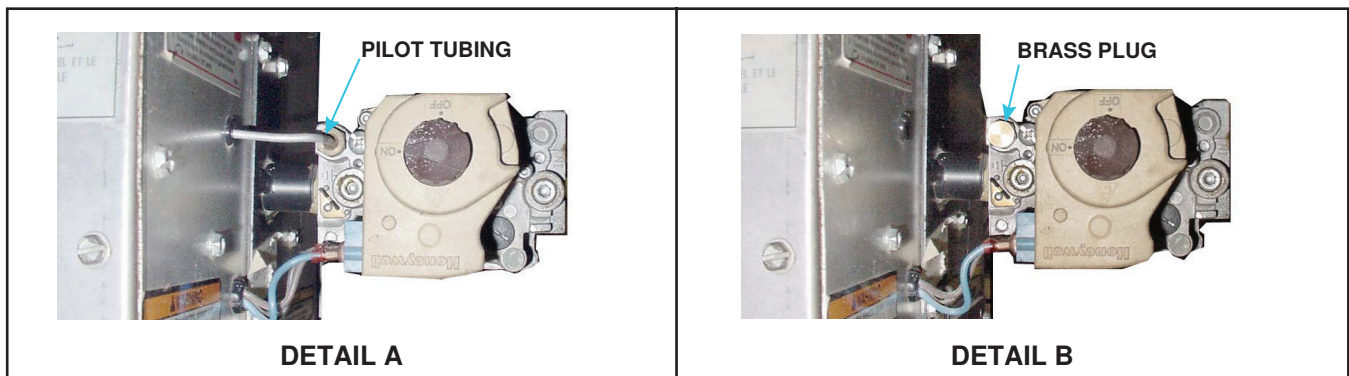

Figure 54. Pilot Tubing Removal
- a. Loosen pilot tubing at gas valve and cut off fitting (see Figure 54, DETAIL A).
- b. Install brass plug in outlet (see Figure 54, DETAIL B).